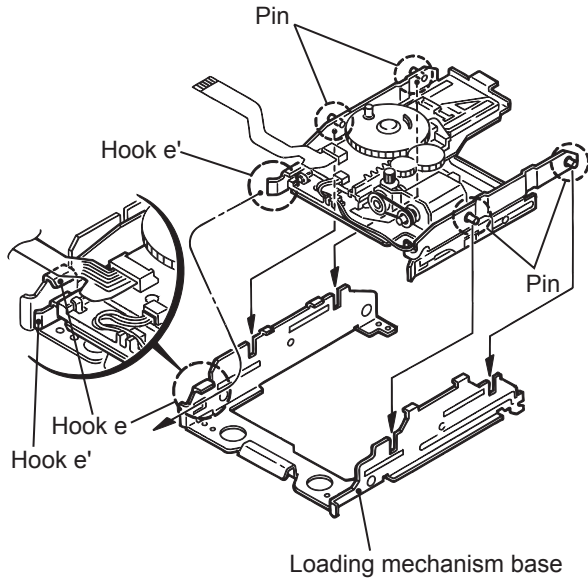

Fig.24
(8) Reattach the UD base while engaging the four pins on both sides of the UD base to the notches of the loading mechanism base and placing the edge (marked e') of the cartridge holder assembly under the hook e of the loading mechanism base. (Fig.24)